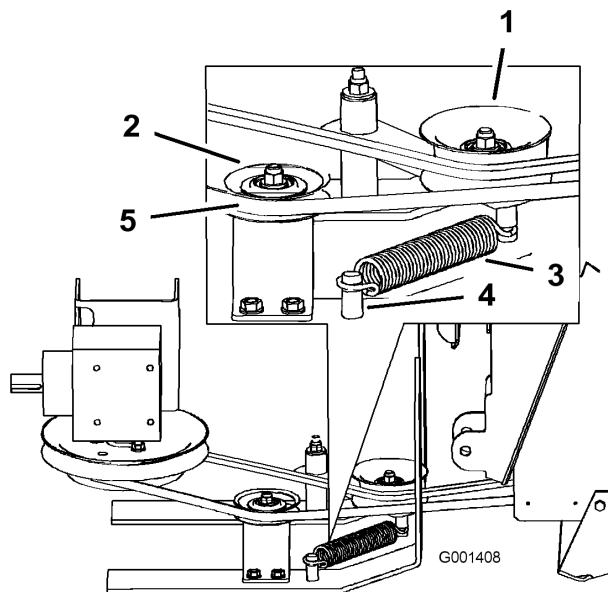
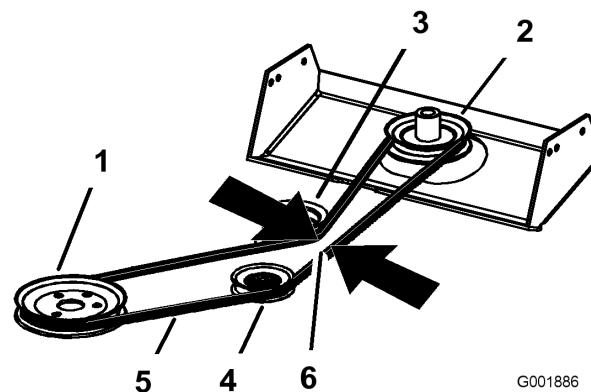

Figure 21
Figure 22
3. Route the bagger belt around the spring loaded idler pulley and the fixed idler pulley (Figure 21).
4. Install the spring onto the idler arm (Figure 21).
5. Install the spring onto the spring anchor attached to the left rear bottom frame (Figure 21).
1. Measure the gap, at the bagger spring loaded idler pulley, between the tight and slack side of the belt when the bagger idler pulley and spring are installed (Figure 21). There needs to be a gap of 1-1/8 inch \pm 1/8 inch (29 mm \pm 3 mm) between the belt strands (Figure 22).